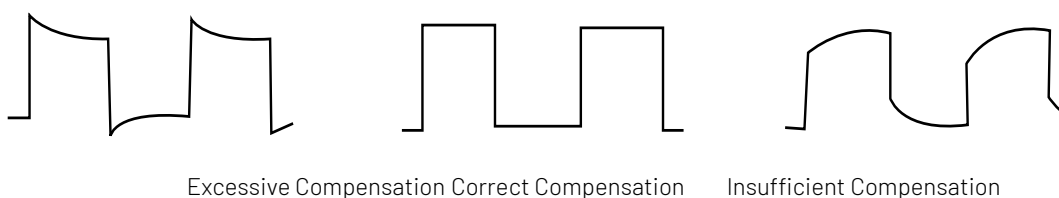

Figure 2 Compensating Calibration of Probe
- ① Set the attenuation coefficient in the probe menu and the switch on the probe to 10x, and connect the probe to CH1. Make sure the probe's connector is properly connected with the oscilloscope. Connect the probe's main clip and ground clip to the oscilloscope's compensating signal and ground terminal respectively. Open CH1 and press the AUTO button.
- ② View the displayed waveform, as shown in Figure 2.